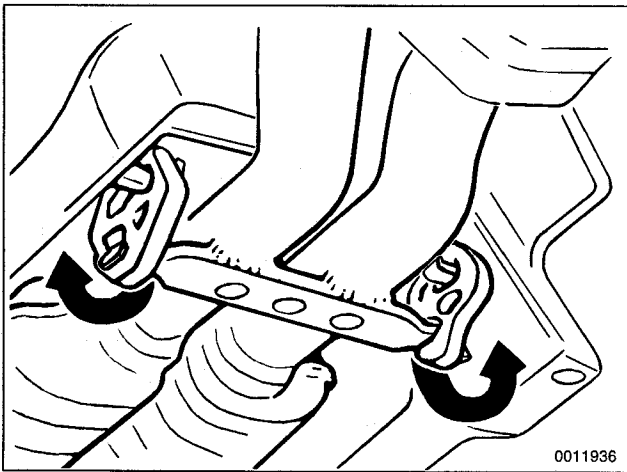

Fig. 7. Rubber exhaust system hangers. Remove hanger by prying off bracket (arrows).
6. Support exhaust system from below and disconnect rubber supports/rubber rings from exhaust system. Remove exhaust system from below. See Fig. 7.